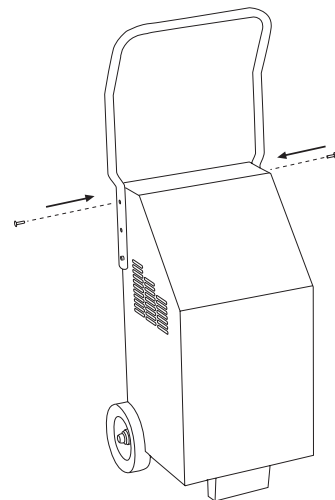

Figure 3. Secure the handle
4. Align the holes in the handle with the screw holes on the side of the charger (the same holes from which you just removed the two screws in step 2). Secure the two screws back into their original holes, thus securing the handle (Figure 3).